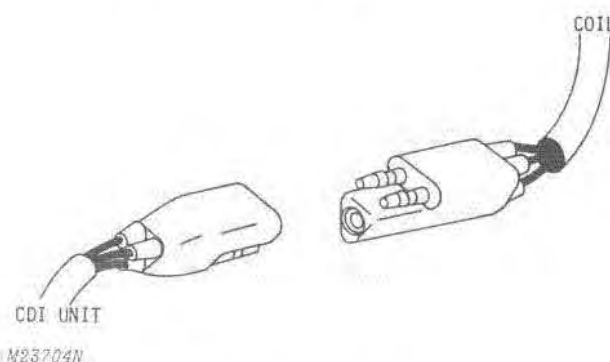

Fig. 3-Preparation for Test #2
1. Separate three-wire connector between coil and CDI unit, Fig. 3.